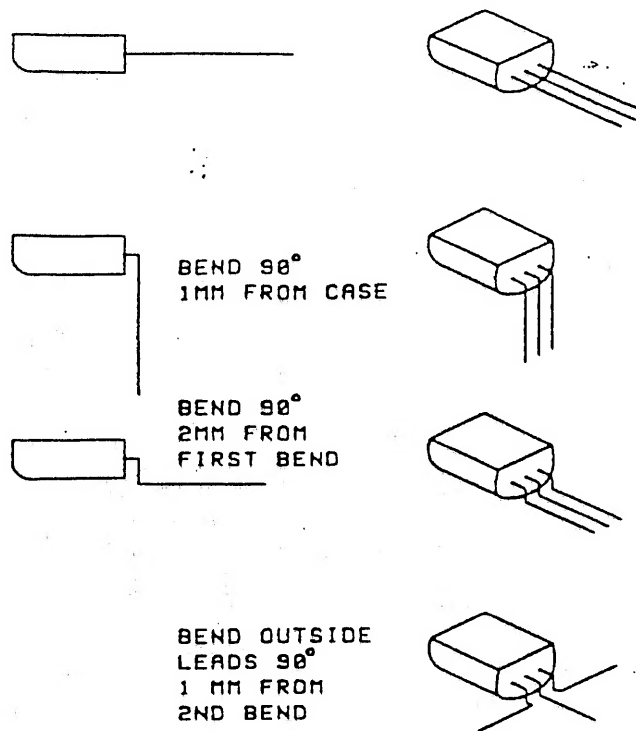

FIGURE 8
18. Prepare the NJM78L06A 6V AVR for installation as shown in Figure 8. The leads to this device are very soft and can break when bent too often. Make each bend only once.